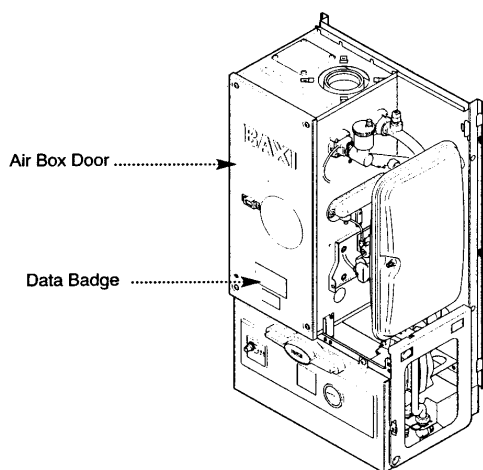

Fig. 2
6. The boiler data badge is positioned on the air box door (Fig. 2).